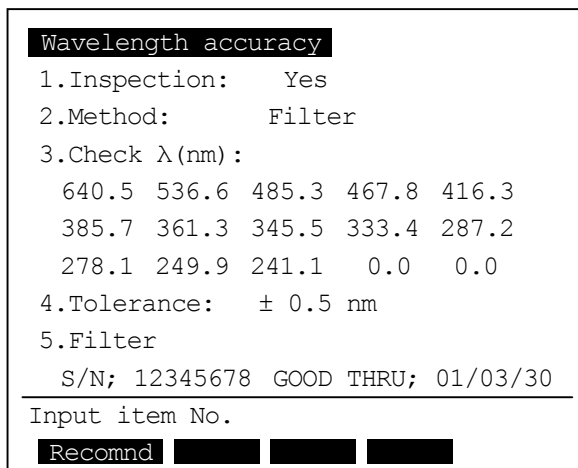

Fig. 3-7 Wavelength accuracy parameter settings screen 2
- 2) Set the parameters to match those shown in figure 3-7.